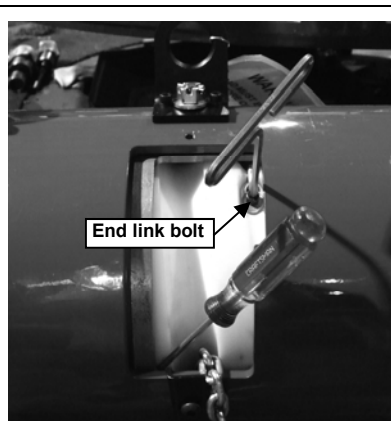

Figure 4-12
- Step 8. Remove the end link bolt and washer from the spool and chain. (See Figure 4-12)
- Step 13. Reinstall 1/4-20 end link bolt and washer into the chain and spool and tighten until snug. (See Figure 4-12)